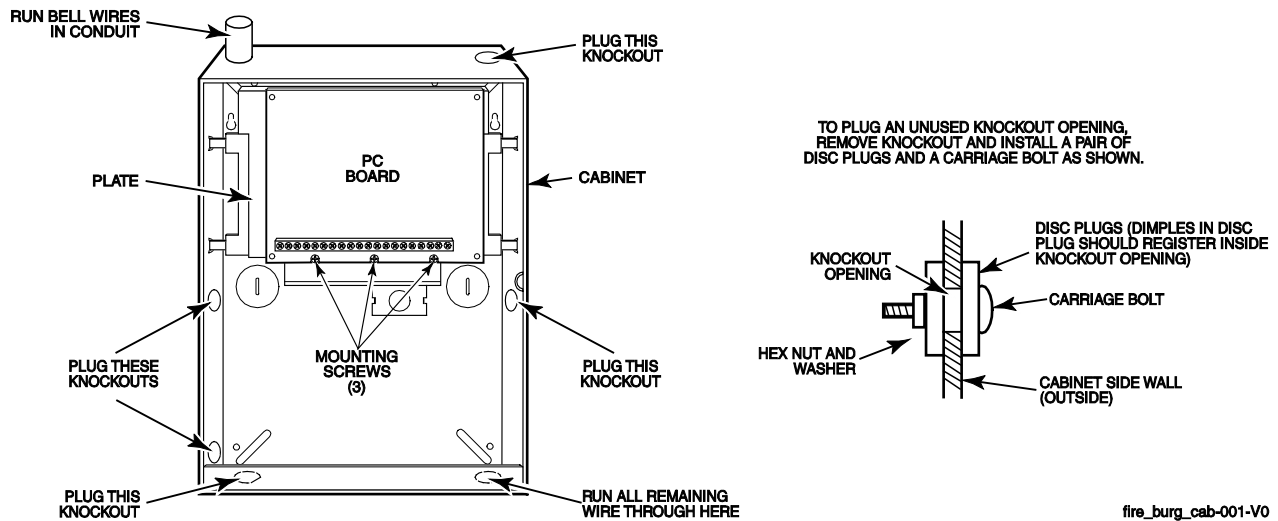

Figure 3-2: Cabinet Attack Resistance Considerations
**UL** To provide certificated burglary service for UL installations, refer to the special requirements and *Figure 3-2. Cabinet Attack Resistance Considerations* to follow.
- All unused knockouts must be plugged using the disc plugs and carriage bolts (supplied), as indicated in Figure 3-2.